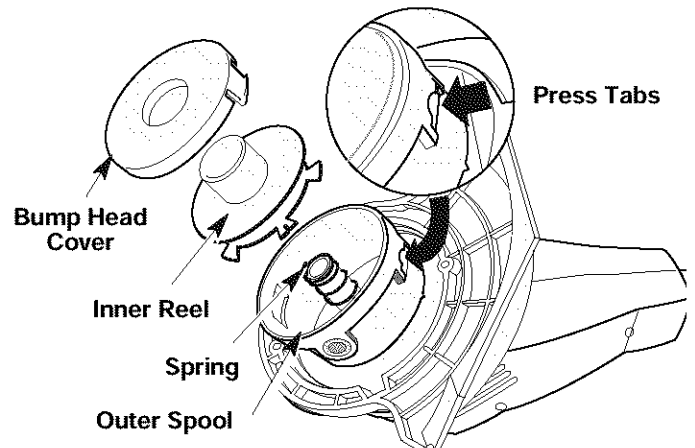

Fig. 11
1. Remove the bump head cover by pressing in both bump head cover tabs visible on either side of the bump head outer spool (Fig. 11).
2. Remove the inner reel and spring (Fig. 11).
3. Use a clean cloth to wipe the inner surface of the outer spool (Fig. 11).
2. Remove the old inner reel and spring from the outer spool (Fig. 11).
3. Remove the spring from the old inner reel (Fig. 11).